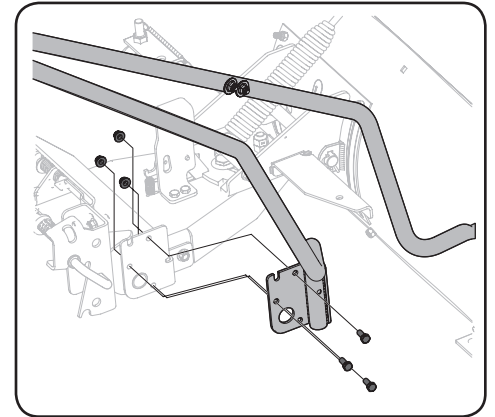

Figure 2-16
1. Attach the plate end of the lift handle (689-00656) to the SHF Assembly (689-00667) with 3 screws (710-3008), and 3 flange lock nuts (712-04063) from hardware pack 3 (689-00679). See Figure 2-16.